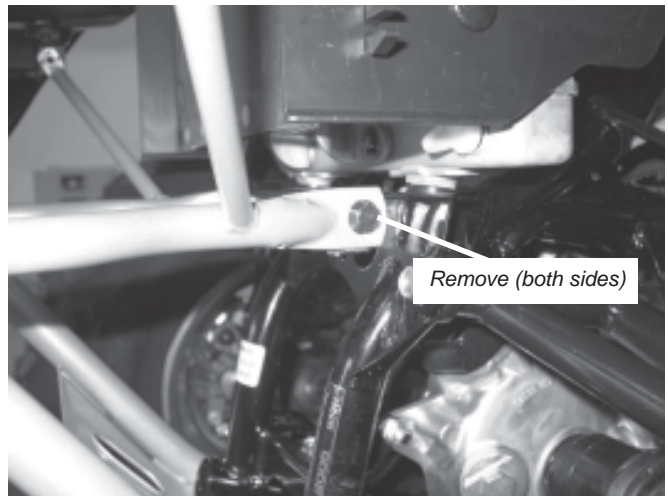

Figure 6 Remove Middle Bumper Bolts
6. Remove the two middle bumper bolts that attach the bumper to the middle of the vehicle frame, figure 6. Remove the front vehicle bumper at this time.